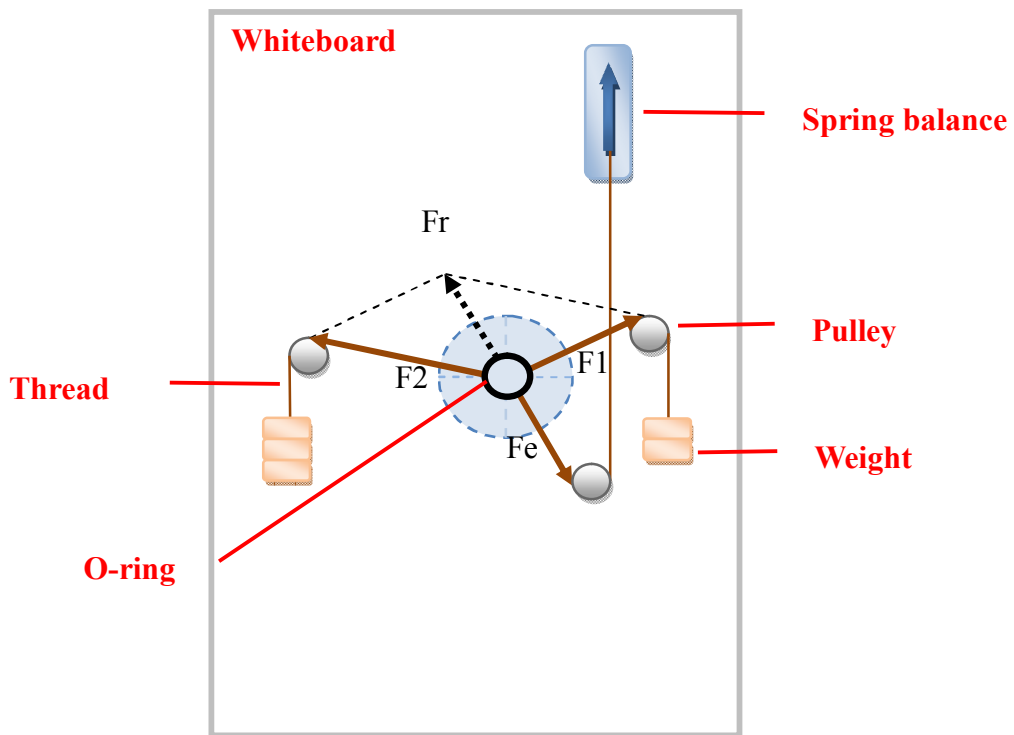

Figure 2-3
3. On the third string end with s-shaped hook with O-rings, bypass pulley at the other end, hung up the weights. For co-O-rings, three spring balance  $F_e$ , respectively on the other side of the thin line, weights of  $F_1$  and  $F_2$  of weights of three force to balance, as shown in Figure 2-3